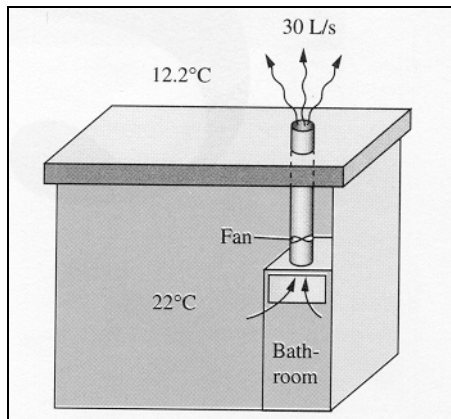

Fig. 3
3. The ventilating fan of the bathroom of a building has a volume flow rate of 30 L/s, and runs continuously (Fig. 3). The building is located in San Francisco, California where the average winter temperature is 12.2 °C, and is maintained at 22 °C at all times. The building is heated by electricity whose unit cost is \$0.091/kWh. Determine the amount and cost of the heat “vented out” per month in winter.